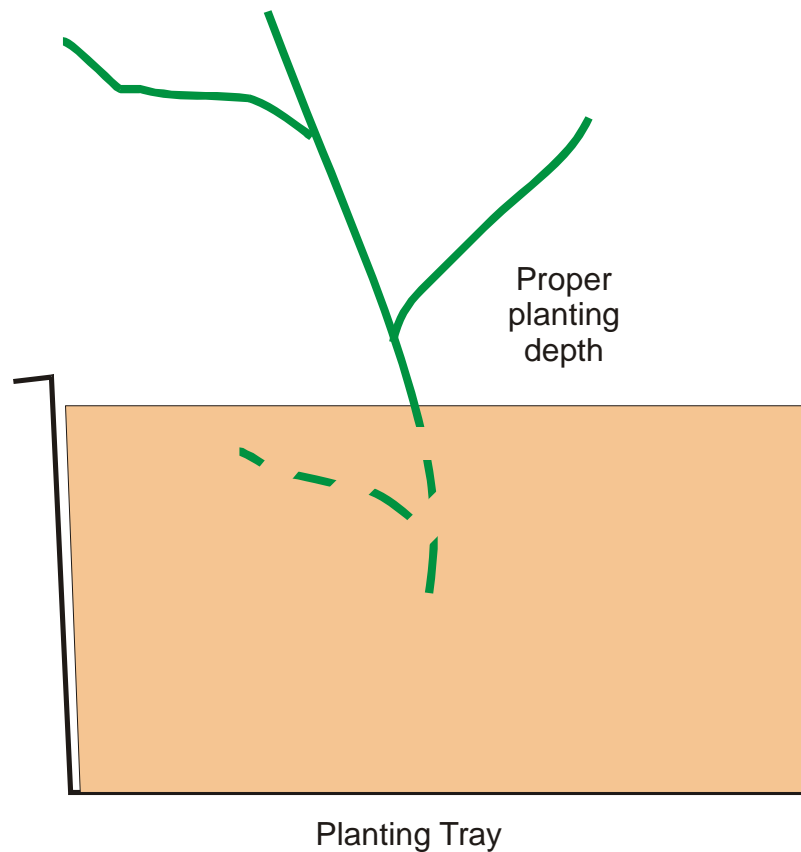

Fig. 6 - Proper planting depth of cuttings.
4. Plant all of the cuttings for growth chamber A into tray 1. Using the tip of your finger, bury each sago pondweed cuttings so that one leaf is in the sediment and two leaves are above the sediment. Make sure they are evenly spaced from the sides of the tray and the other plants. Smooth the sand flat around the base of the stem (Fig. 6).